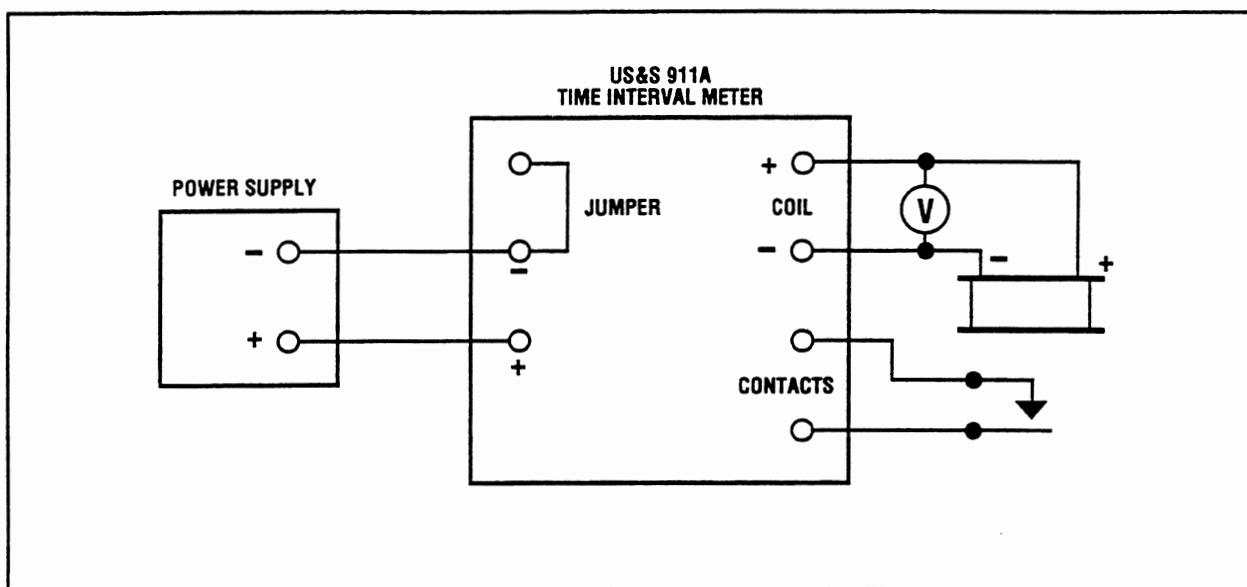
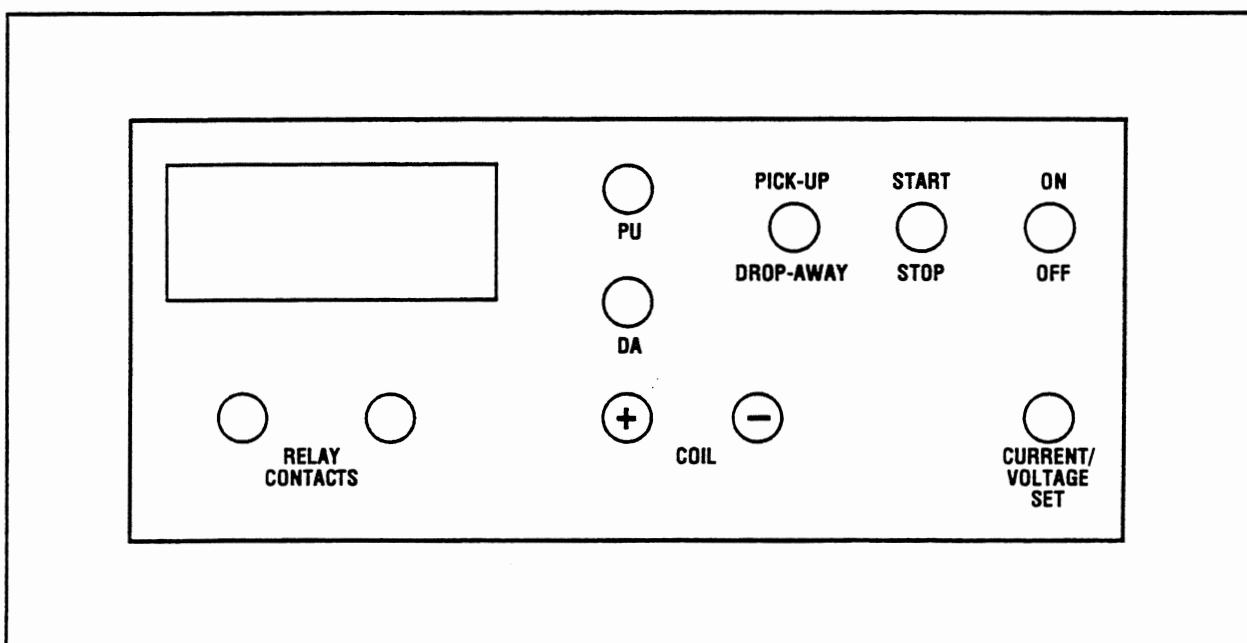

Figure 3-4. Operating Time Measurement, Test Setup
Figure 3-5. Time Interval Meter, US&S 911A, Front Panel
- a. With the relay mounted as described in paragraph 3.6.1.3 upon conclusion of the biased relay tests, set the TIMER switch (23) to the TIMER position (down).
- b. Using a Time Interval Meter (TIM) US&S Model 911A, disconnect the jumper leads from the A+/A- jacks (8) and connect them to the corresponding EXTERNAL POWER jacks (+) and (-) on the rear of the TIM, as shown in Figure 3-4.
- c. Connect the TIM COIL jacks (Figure 3-5) to relay coil jacks A+/A- (8) (red to A+ and black to A-).
- d. Connect the TIM CONTACTS jacks across the F and H jacks (22).
- a. After completing the biased relay tests per paragraph 3.6.1.4, connect the relay into the test circuit shown in Figure 3-4.
- b. On the TIM (Figure 3-5), set the switches as follows:
- b. Using a Time Interval Meter (TIM) US&S Model 911A (Figure 3-5), disconnect the jumper leads from the A+/A- jacks (8) and connect them to the corresponding EXTERNAL POWER jacks (+) and (-) on the rear of the TIM, as shown in Figure 3-4.